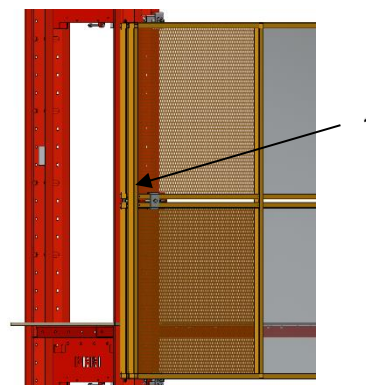

Fig. 5: For each Telescopic Screen DX LPS 123 x 248 1x 135251.
One guiding pin LPS (1) must be installed in the middle of the element. (Fig. 5 & 6)